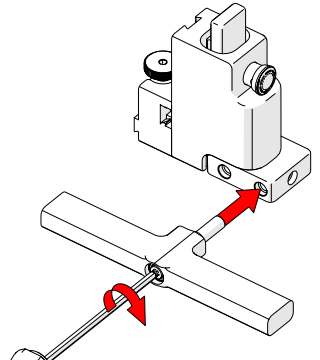

Fig. 64 - Screw into outer threaded hole
3. Choose an alternate size of yoke and screw the yoke to the outer probe holder hole (Fig. 64).